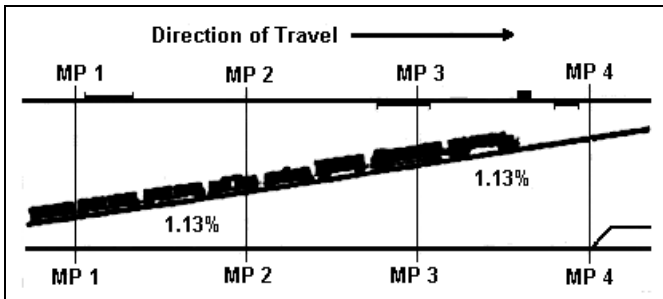

**Figure 5-15. Direction of Train Travel in a Throttle Modulation Method (Sag)**
d. **Throttle Modulation Method (Sag) (Preferred Method for Controlling Speed) (see Figure 5-15).**